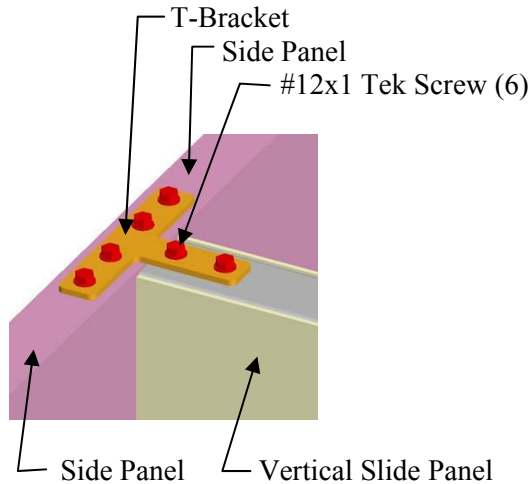

Figure 15 (On the Top)
If your shipment came with X brackets and T brackets as shown in (**Figure 15 & 16**). Please follow the directions below.
1. For Side Panels and Verticals Slide Panels at the end of each row, attach a T-Bracket on the top of both joining Side Panels and Vertical Slide Panel using 1" self-drilling Tek Screws as shown in **(Figure 15)**. Follow the same instructions to attach Bracket on the other end of the kennels.